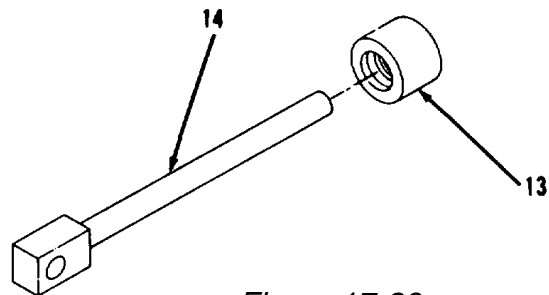

Figure 17-28.
8. Remove crown (13) from rod assembly (14, Figure 17-28).
1. Position crown (13) on rod assembly (14, Figure 17-28).